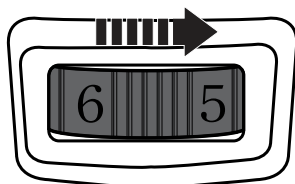

Fig. 14
- > Turn the speed dial (1) right (from the perspective shown below) to increase the maximum speed (Fig. 14). A higher setting is suitable for sanding with fine-grained sanding papers to achieve a fine finishing.